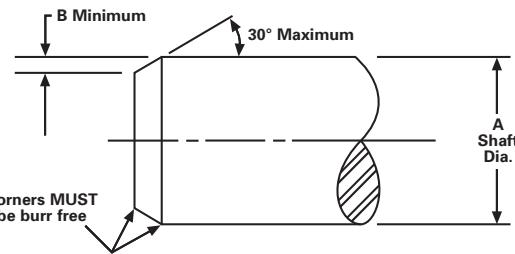

Figure 7: Shaft Geometry
- Both the shaft and bore should include an edge relief (preferably an edge chamfer), as shown in Figures 7 and 8. See Tables 8 and 9 for specific values.